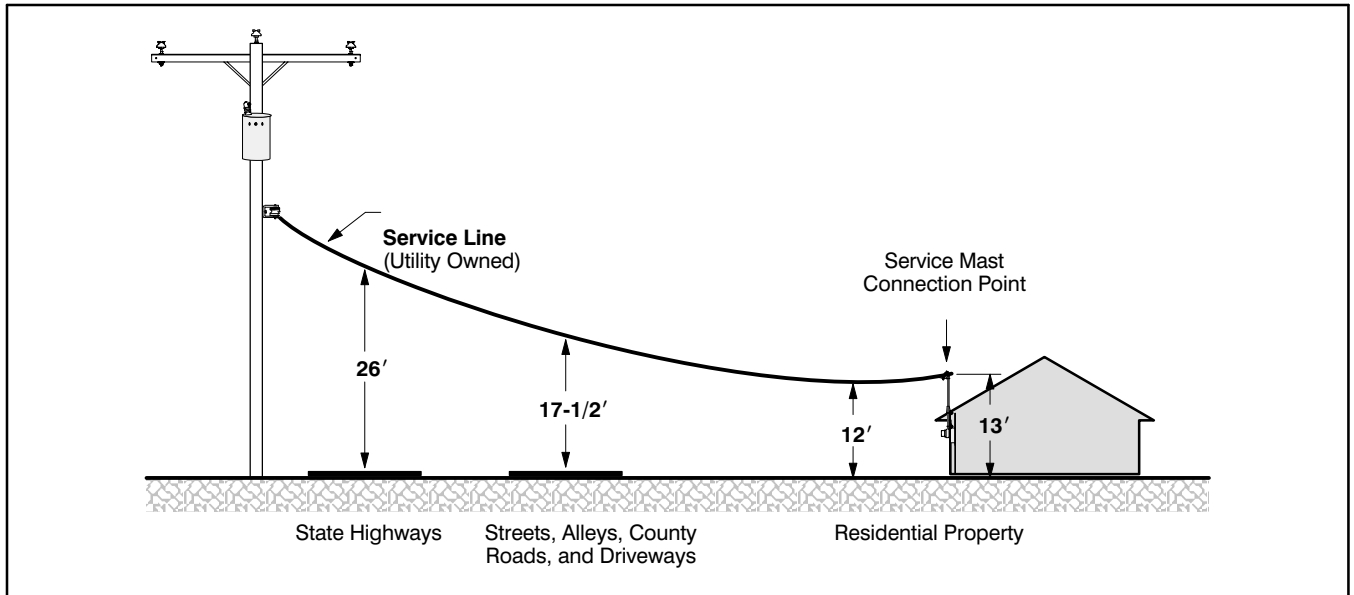

Figure 15 Minimum overhead service line vertical clearances from ground level
- Verify that the service mast height requirements have been met (see *Figure 15*).
The National Electric Safety Code (*NESC*) establishes minimum clearance requirements to maintain safe height requirements for electrical conductors over various terrain (see *Figure 15*).